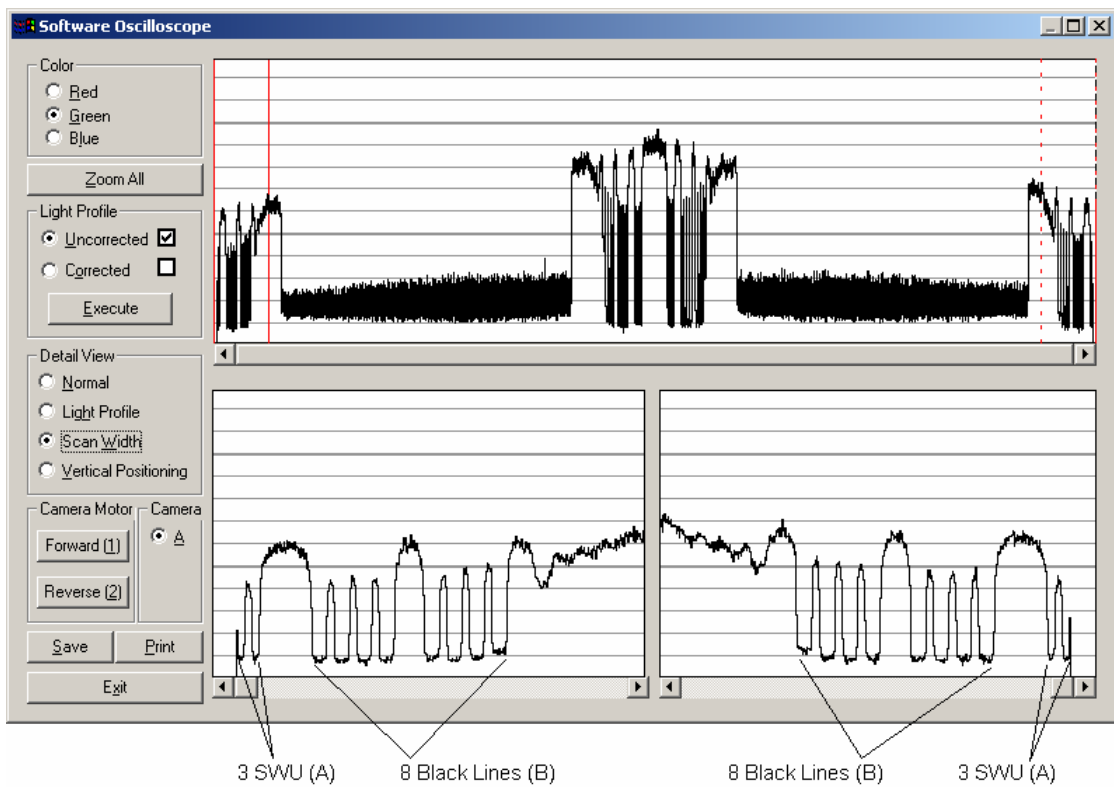

Fig. 4-20 COUGAR 25, CHAMELEON 25, Scan-Width
- Fig. 4-20 COUGAR 25, CHAMELEON 25, Scan-Width, page 102